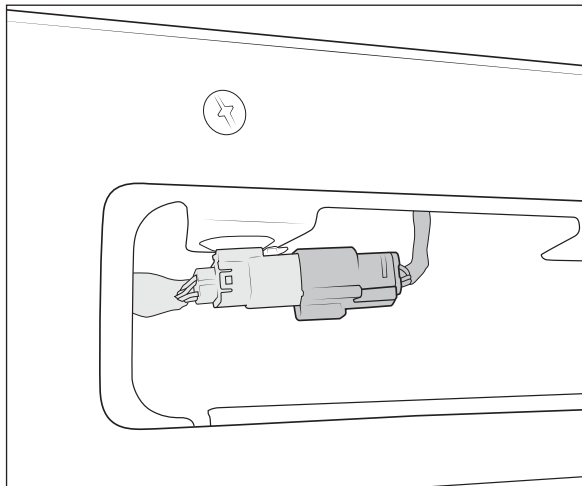

Figure 2
2. Unplug wiring to tailgate for backup camera (fig. 2).
- C. Install Factory Trailer plug (fig. 2).